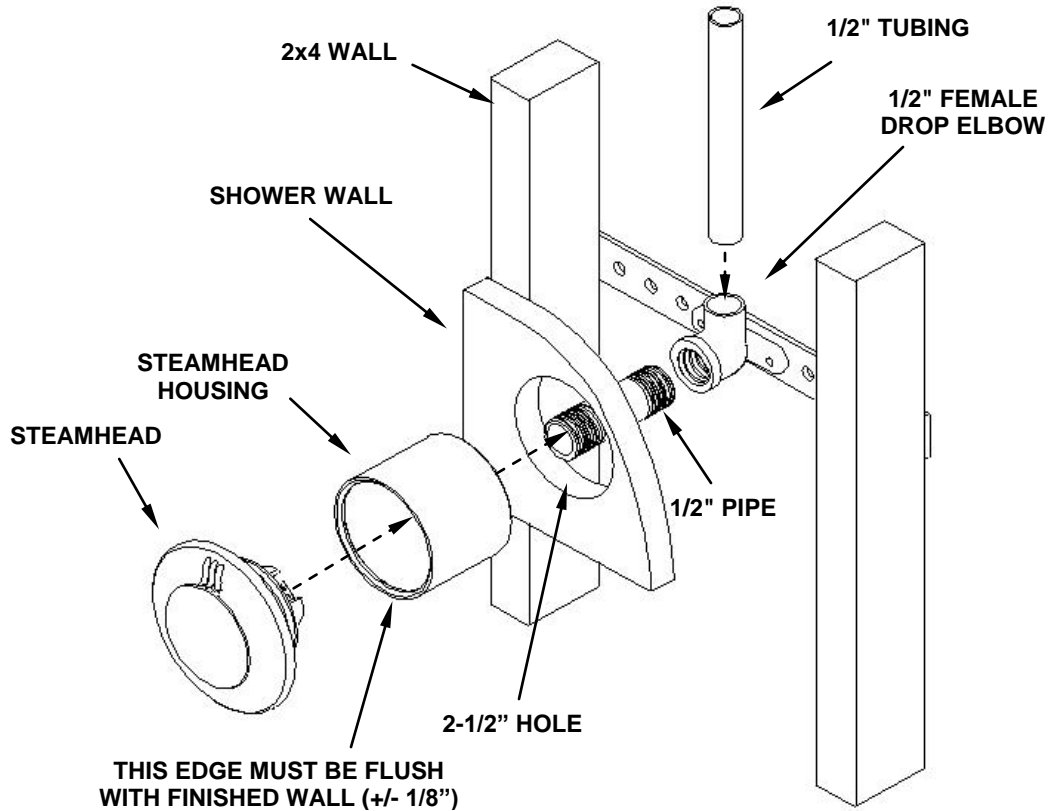

Figure 4
1. Drill a 2-1/2" diameter hole in the shower wall or wall above the bathtub rim for the steam outlet line (see Figure 4).
2. Connect a 1/2" NPT brass pipe or tubing to the steam outlet on the generator running the pipe to the 2-1/2" diameter hole in wall to connect with the Steamhead housing. Use Figure 4 as a guide. **It is very important that the pipe is firmly secured to the wall, so that when the Steamhead is installed it doesn't push the housing back into the wall. The steam line can run up, down, or horizontal; but cannot run down and then up.** If it does, a steam trap may be produced at the low point blocking the flow of steam. Install a 1/2" drop elbow on the end of the 1/2" pipe or tubing for the Steamhead housing. For all the connections, use Teflon tape/solder and do not over tighten fittings. **DO NOT USE PVC CEMENT.**